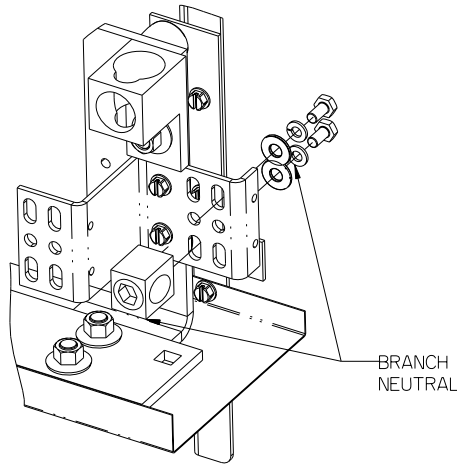

Figure 10
11. Reference fig. 10 - Installing the Branch Neutral Lug assy. (item 23) in a Panelboard. The Branch Neutral is located at the bottom of the "Z-rails", or mirrored at the top depending upon the feed cable location. Two (2) different Neutral lug assemblies are included in the kit, be sure to install the type pictured below. The Neutral lug assemblies can be mounted, as shown, on either side of the Branch Neutral depending on cable feed location. Torque all hardware as specified on the rear of the deadfront.